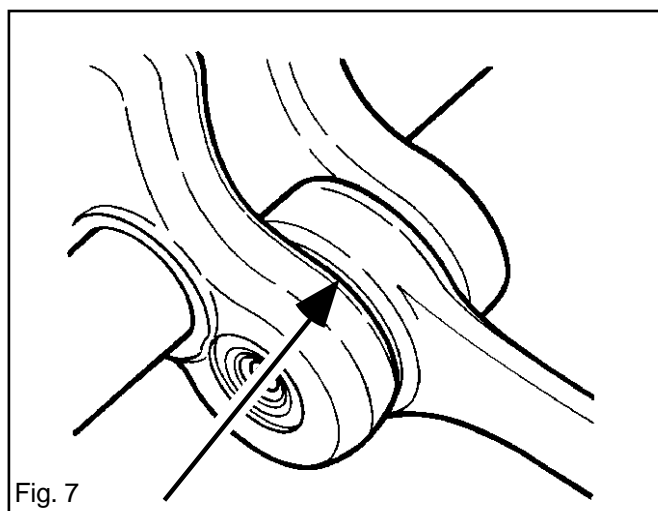

Fig. 7
2. The big end bearing does not have any score marks or discoloration on the sides. See fig. 7.